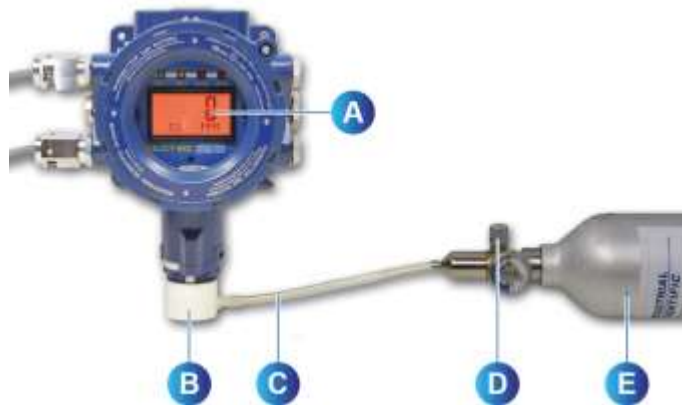

Figure 59: zero test.
2. Place the calibration hood over the detector head (Figure 59, B).
3. Connect the calibration hood to the bottle of clear air (Figure 59, E) using a piece of flexible tubing (Figure 59, C).
4. Open the valve on the bottle of clear air (flow rate of 30-60 l/h or 60-120 l/h for OLCT IR versions) (Figure 59, D).
5. After the reading has stabilized (after about 2 minutes) read the detector's display (Figure 59, A).
1. Once the zero test has been performed, connect the calibration hood to the calibration gas bottle (Figure 59, E) using a piece of flexible tubing (Figure 59, C).
2. Open the valve (Figure 59, D) on the calibration gas bottle (flow rate of 30-60 l/h or 60-120 l/h for OLCT IR versions).
5. Close the bottle's valve (Figure 59, D) and remove the calibration hood (Figure 59, B). Wait until the measurement reading returns to zero and leave the *Test* menu by pressing *ESC* on the IR20 remote control. This completes the zero and gas sensitivity test procedure. The detector may now be used.